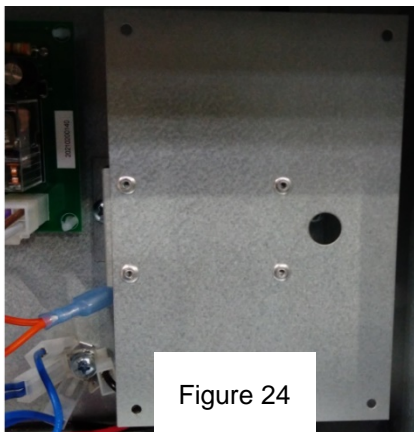

Figure 24
18. Fit the mounting bracket, provided with the kit, inside the j-box (Fig. 24). Mount the Fenwal module onto the bracket and attach the connectors to the module header tabs (Fig. 25).